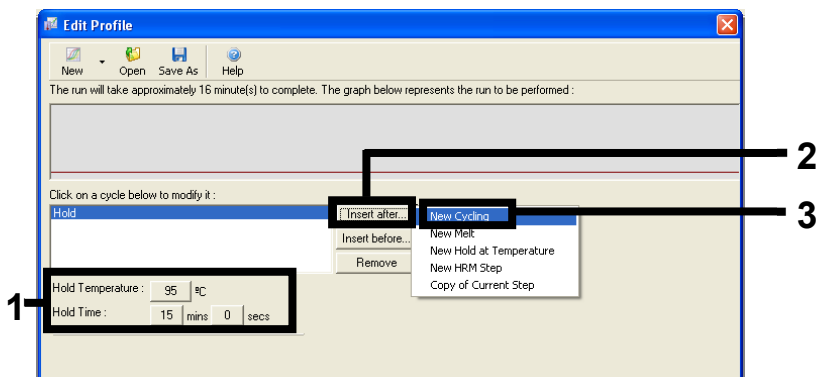

Figure 24. Initial incubation step at 95°C (1 = “Hold Temperature and Hold Time” buttons; 2 = “Insert after” button; 3 = “New Cycling”).
7. Change “Hold Temperature” to 95°C and “Hold Time” to 15 mins 0 secs. Click “Insert After” and then select “New Cycling” (Figure 24).